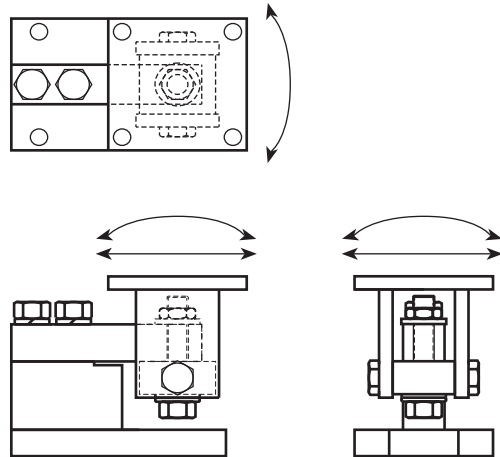

Figure 14-7. RL1800
Figure 14-7 illustrates the RL1800 module with arrows indicating allowable movement.
3. A chair arrangement is attached to the trunnion block through pivot screws, and the load is applied to the top plate of this chair. This arrangement allows the chair to move in the directions indicated in Figure 14-7.